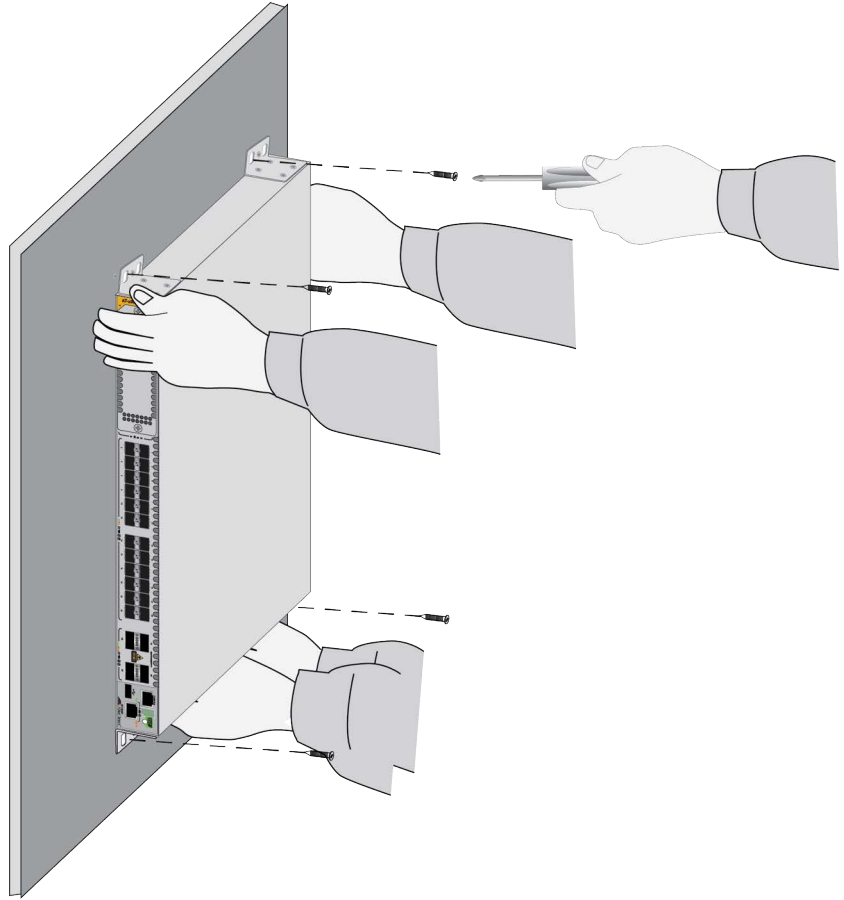

Figure 66. Installing the Switch on a Concrete Wall
7. Have two people hold the switch at the selected wall location while you secure it to the wall with the four provided screws. Refer to Figure 66.